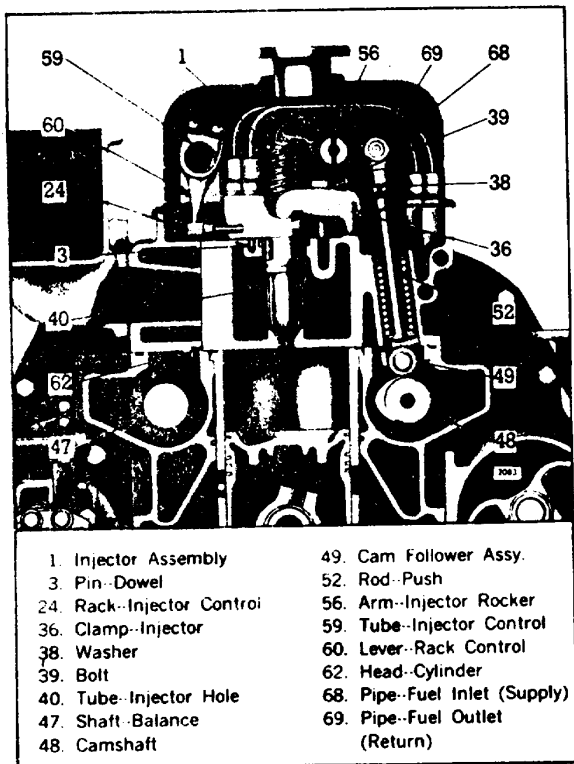

Fig. 6. - Fuel Injector Mounting
The motion of the injector rocker arm is transmitted to the plunger by the follower which bears against the follower spring (Fig. 6.) In addition to the reciprocating motion, the plunger can be rotated, during operation, around its axis by the gear which meshes with the control rack. For metering the fuel, an upper helix and a lower helix are machined in the lower part of the plunger. The relation of the helices to the two ports changes with the rotation of the plunger.
2. Remove the fuel pipes from both the injector and the fuel connectors (Fig. 6.).